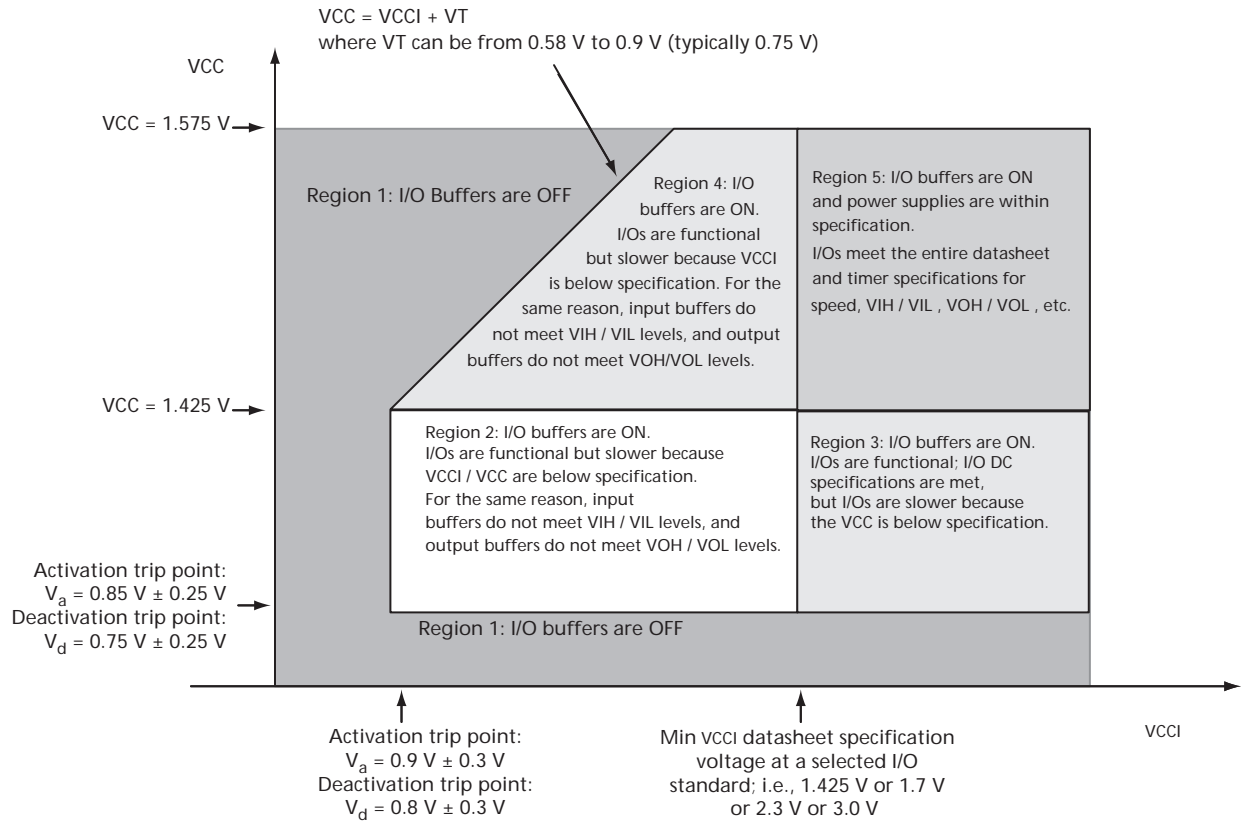

Figure 2-1 • I/O State as a Function of VCCI and VCC Voltage Levels
Sophisticated power-up management circuitry is designed into every ProASIC[®]3 device. These circuits ensure easy transition from the powered-off state to the powered-up state of the device. The many different supplies can power up in any sequence with minimized current spikes or surges. In addition, the I/O will be in a known state through the power-up sequence. The basic principle is shown in Figure 2-1 on page 2-4.
1. VCC and VCCI are above the minimum specified trip points (Figure 2-1 on page 2-4).
Microsemi recommends using monotonic power supplies or voltage regulators to ensure proper power-up behavior. Power ramp-up should be monotonic at least until VCC and VCCPLLX exceed brownout activation levels. The VCC activation level is specified as 1.1 V worst-case (see Figure 2-1 on page 2-4 for more details).